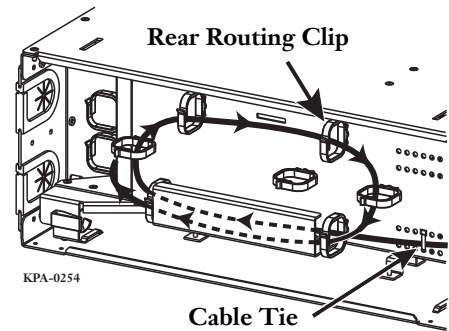

Figure 8 — Route Pigtail Through Rear Routing Clips
- Step 1:** Loosely secure the buffer tube to the rear of the shelf using a cable tie (Figure 8). Do not tighten the cable tie.